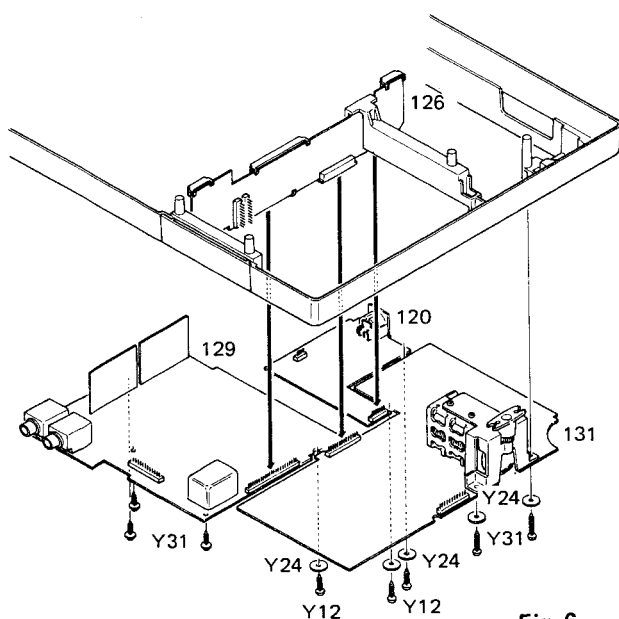

Fig. 6
4. Remove the two pairs of screws (Y12) and washers (Y24) and unplug the equalizer PCB (120) from the socket of the connector PCB (126). (cf. Fig. 6)
5. Remove the three screws (Y31) and a pair of screw (Y12) and washer (Y24). Then, unplug the amplifier PCB (129) from the socket of the connector PCB (126). (cf. Fig. 6)
6. Remove the three pairs of screws (Y12) and washers (Y24), and two pairs of screws (Y13) and washers (Y24). Then, detach the tuner PCB (131) by unplugging it from the socket on the connector PCB (126). (cf. Fig. 6)